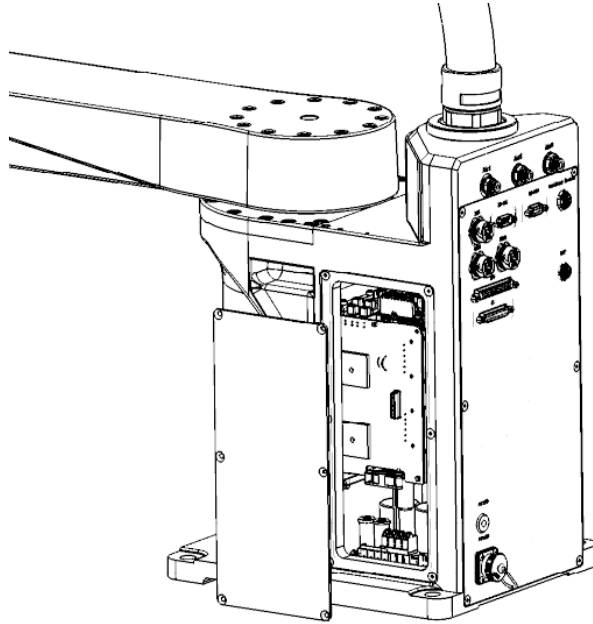

Figure 4-10 Take out the side door of the base
Step 2 Take out the side door of the base, as shown in Figure 4-10.